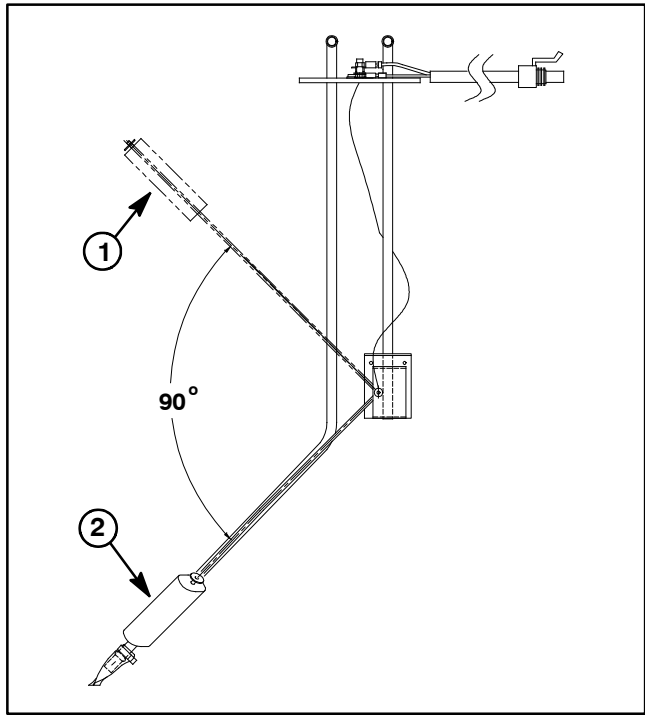

Figure 83
8. Use a multimeter to check resistance of the fuel sender across the two (2) sender terminals (Fig. 83).